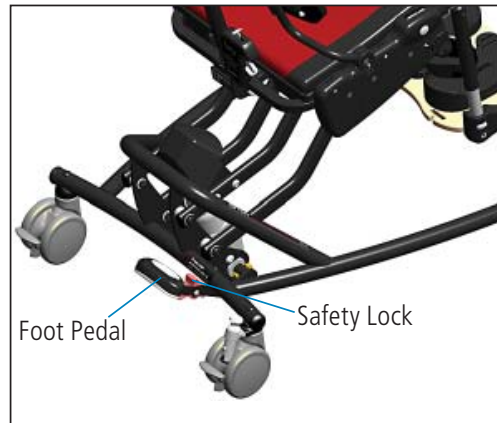

Figure 15a
**Note:** When connecting legs with casters, make sure the caster with swivel lock function is inserted into right rear leg of base frame (see Figure 15a).
To adjust seat height, use foot pedal located at rear of chair. To raise seat, pump downward repeatedly on foot pedal until desired height is achieved (see Figure 15a). To lower seat, lift red safety lock and foot pedal upwards with top of foot until seat descends to desired height.